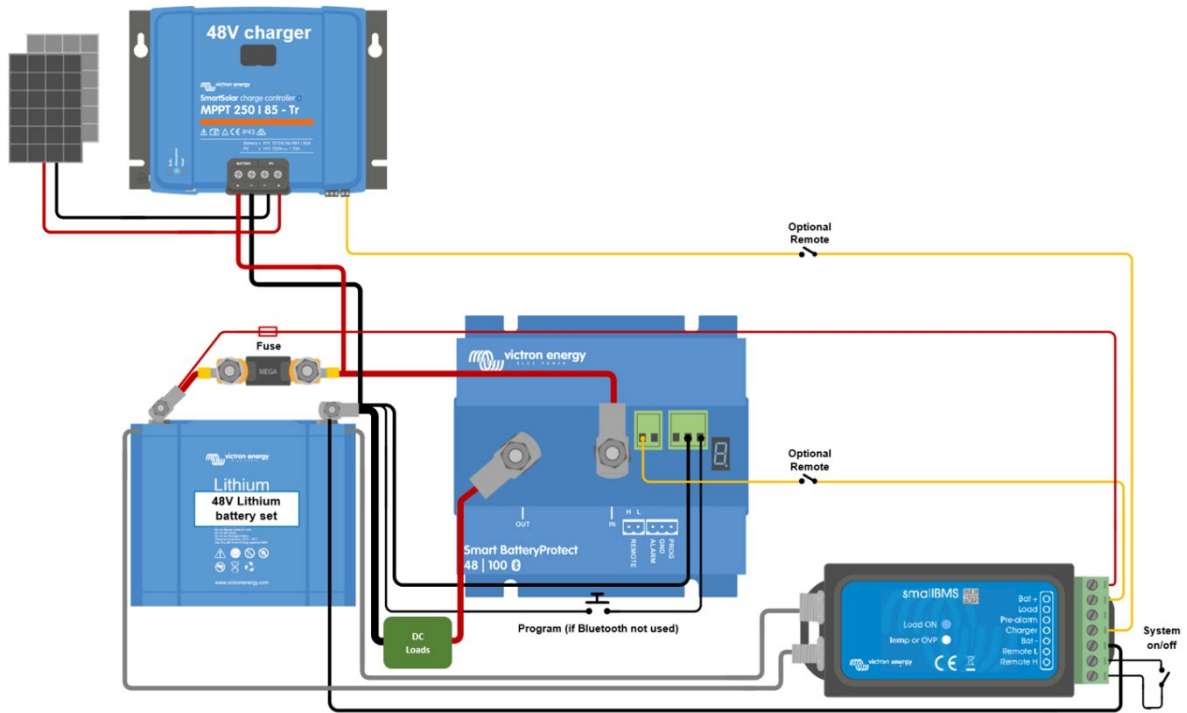

Figure 4: DC solar system with Lithium battery (applicable with VE.Bus BMS or smallIBMS)
- When in Li-ion mode the SBP will observe a dead period of 30 seconds after the remote input of the SBP has become free floating. See the note under figure 4 for a detailed description.